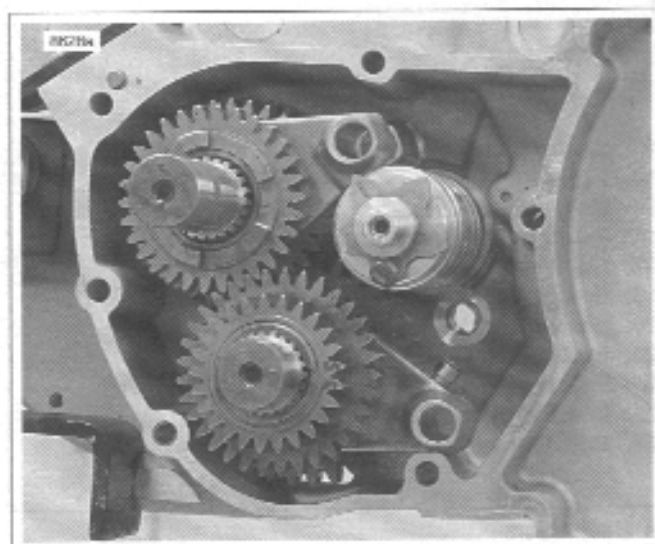

Figure 6-51. Transmission Assembly
2. See Figure 6-51. Remove shifter drum and shifter forks.